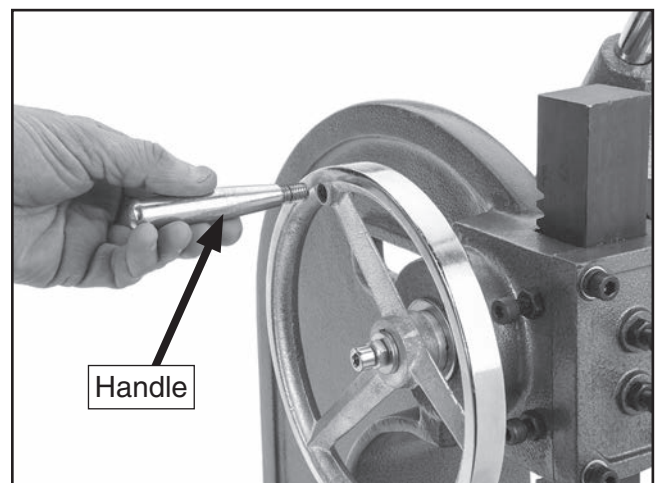

Figure 6. Attaching handle to handwheel.
1. Attach handwheel handle to handwheel (see **Figure 6**).